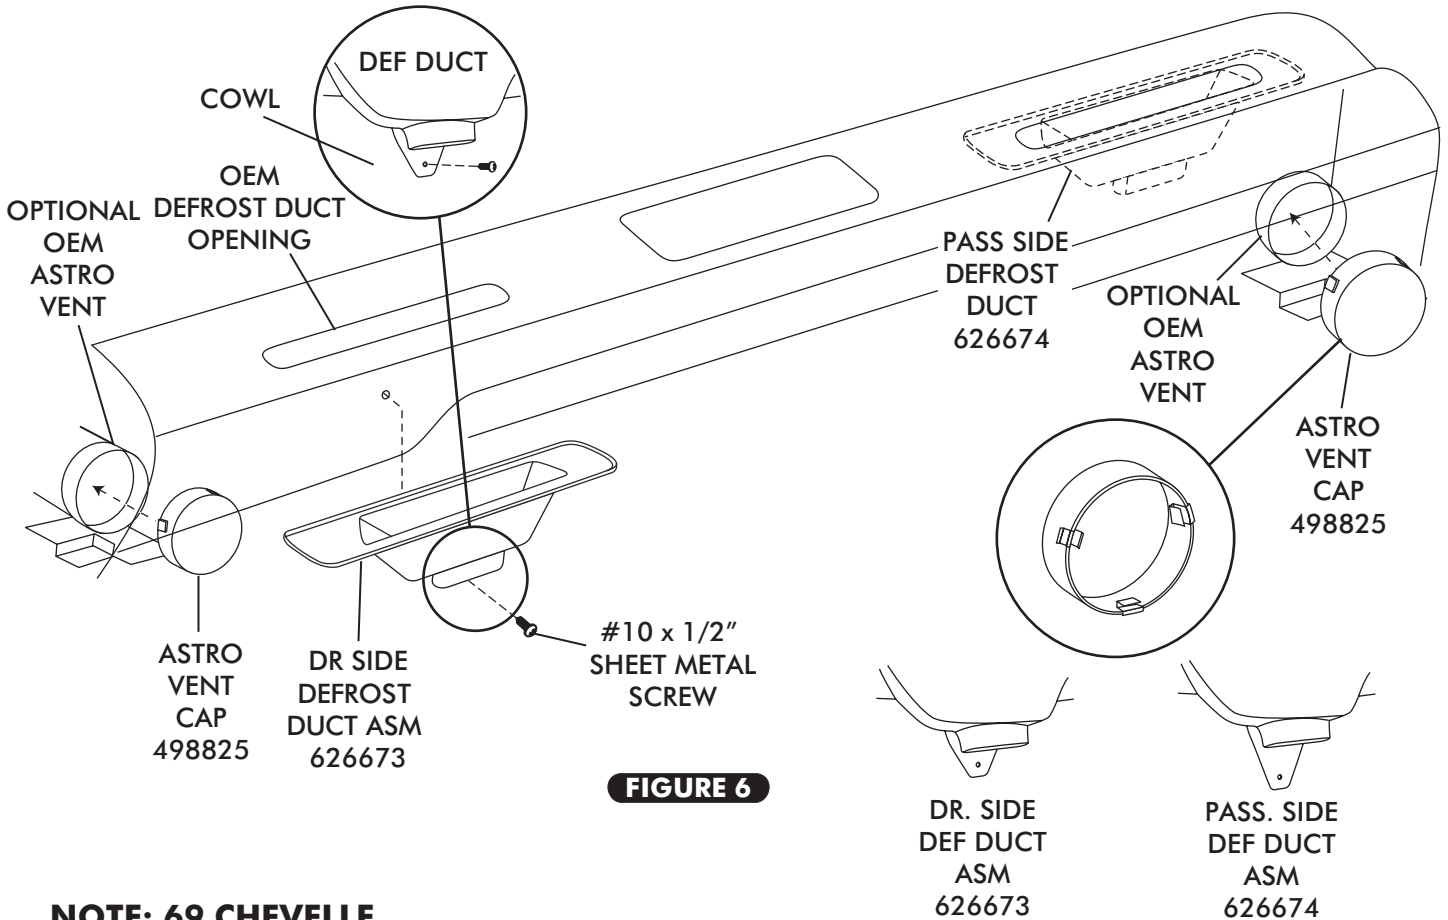

FIGURE 6
- INSTALL DEFROST DUCTS UNDER DASH AND ALIGN WITH OEM OPENING. SECURE USING #10 x 1/2" SHEET METAL SCREWS AND ATTACH TO COWL. SEE FIGURE 6.
NOTE: ON 69 CHEVELLE, INSTALL ASTRO VENT CAP AS SHOWN IN FIGURE 6 BELOW.